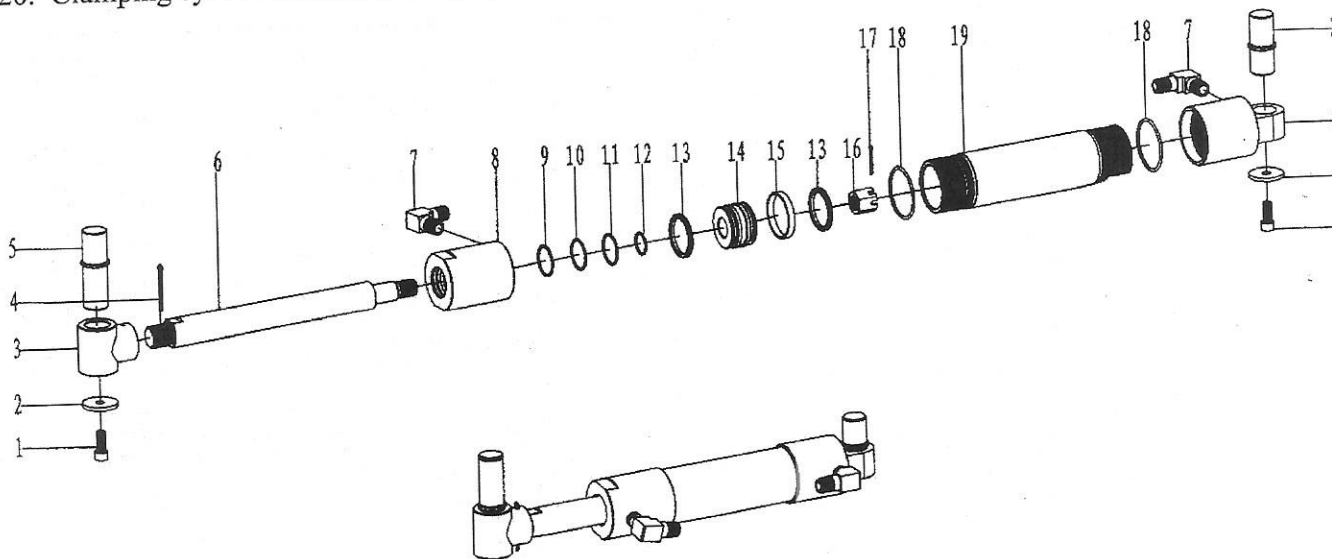

Fig. 23
20. Clamping cylinder assembly (Fig23, Table 20)